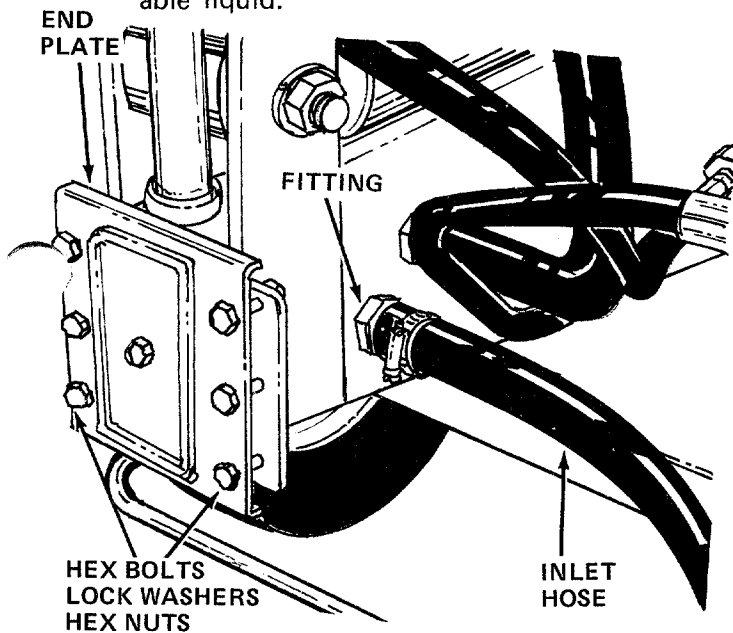

FIGURE 18
1. Remove the hose clamp at the inlet hose (bottom hose). See figure 18.